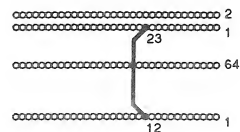

Figure 1
**Note:** If you removed a Mega CPU daughterboard as described above, you will now need to solder a small (30 gauge is fine) jumper wire on the bottom of your computer's motherboard between pin 12 of the new CPU socket and pin 23 of the Mega expansion connector (figure 1). This is the easiest way to repair a trace that was cut when the daughterboard was installed.